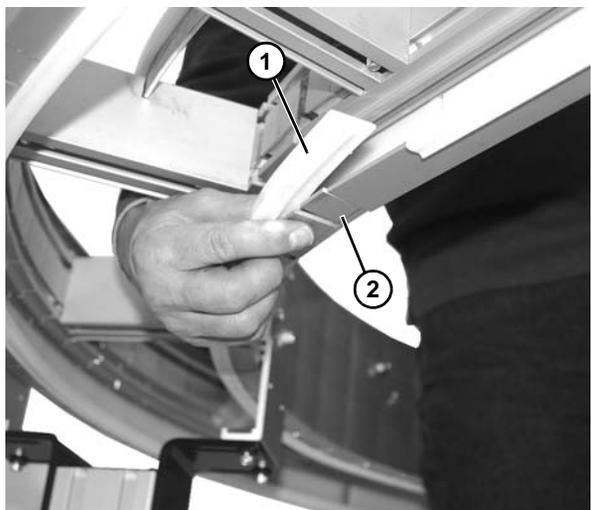

Figure 43
1. Slide J-leg wear strips (Figure 43, item 1) from lower frame (Figure 43, item 2).